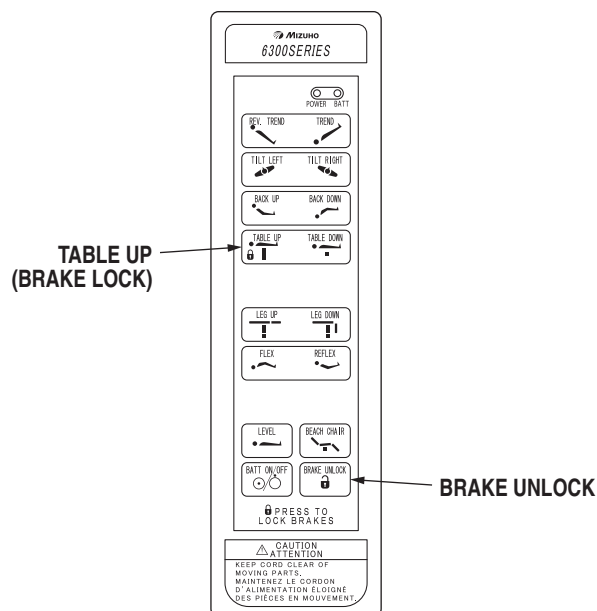

Figure 2-7. Brake System Activation
- a. **Floor Lock/Brake System** To activate the brakes without affecting table positioning, press the TABLE UP button. See figure 2-7. The elevation cylinder will not function until the brakes are completely extended.
Press the BRAKE UNLOCK button on the pendant control to release the four self-leveling brake feet in order to move the table. See figure 2-7. The brake delay circuit automatically retracts the brake system. It takes approximately 7-8 seconds to totally release the system.